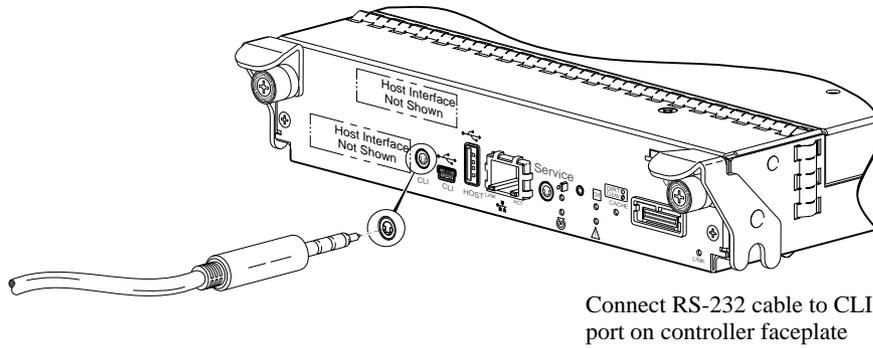
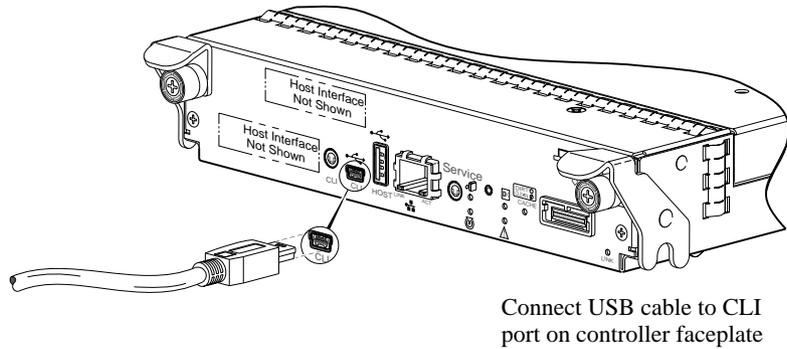

Figure 22 Connecting an RS-232 cable to the CLI port
Figure 23 Connecting a USB cable to the CLI port
- Figure 22 — Use the RS-232 (35mm jack) cable to connect controller A to a serial port on a host computer. The cable plugs into the controller's CLI port as shown.
- Figure 23 — Use the USB cable to connect controller A to a USB port on a host computer. The USB mini 5 male connector plugs into the controller's CLI port as shown in Figure 22.